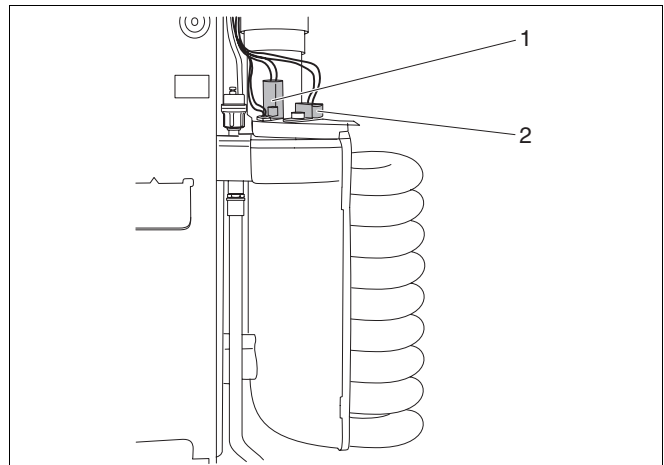

Fig. 41 Remove the glow ignitor and ionisation electrode
- Remove the glow ignitor (fig. 41, item 1) and ionisation electrode (fig. 41, item 2).